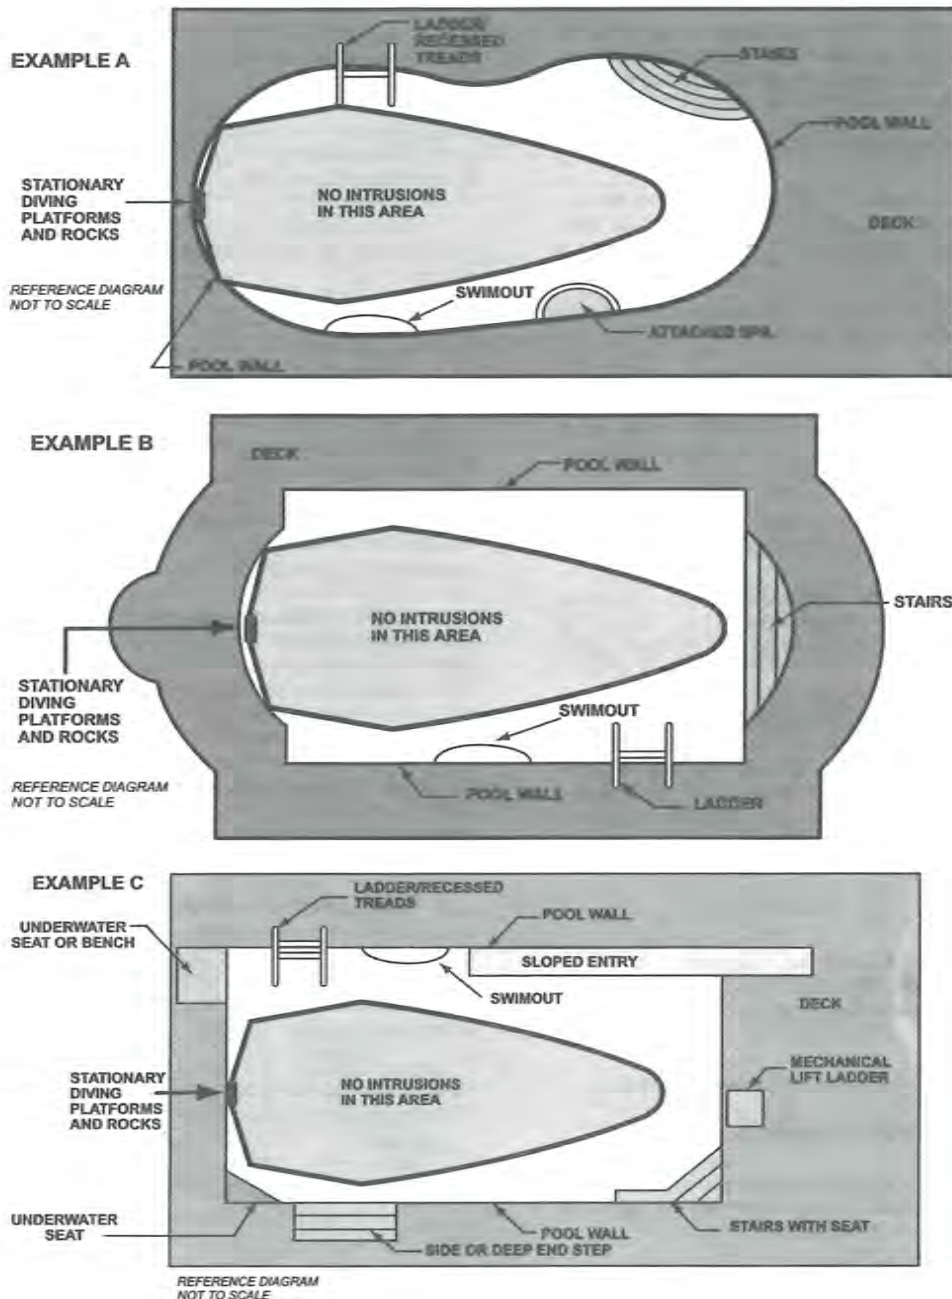

Figure 6 – Top view examples of accessory equipment and pool features prohibited in the water envelope
5.9.3 Location of equipment and pool features in the minimum water envelope. If the pool is designed for use with diving equipment, steps, pool stairs, ladders, underwater benches, special features and other accessory items shall be located outside the minimum water envelope. (See figure 6)
6.1.4 Entries, exits, pool stairs, (as shown in figure 6) ladders, underwater benches, special features and other accessories shall be located outside the minimum water envelope as shown in figure 6 when pool is designed for use with diving equipment.
6.3.1 Sloping entries used, as a pool entrance (see figure 6-C) shall not exceed 1 foot in 7 feet (30 cm:213 cm).